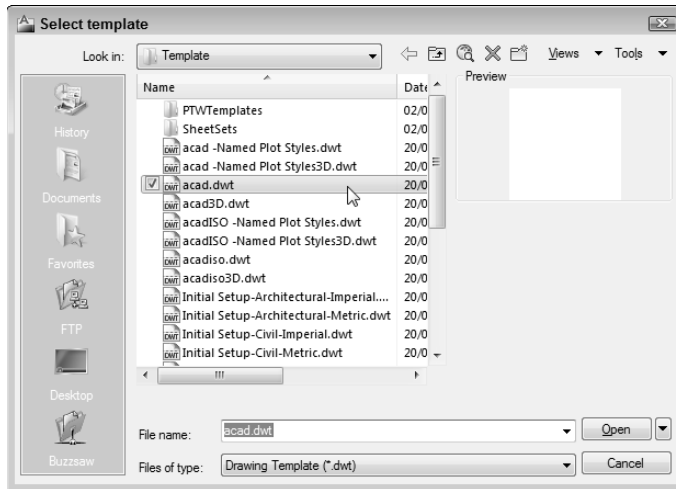

Figure 3-2:
3. **Select** acad.dwt [acadiso.dwt], **as shown in Figure 3-2**, and click **Open**. (For AutoCAD LT, select acadlt.dwt [acadltiso.dwt].)